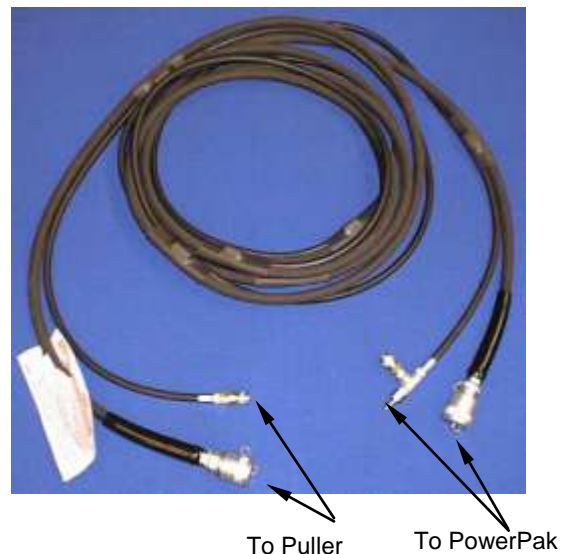

Figure 3.1-1
6. Connect the female air quick disconnect onto the male fitting of the puller unit (see Figure 3.1-1).
8. Connect the male air quick disconnect attached to the T-fitting into the female coupler of the FTI PowerPak (see Figure 3.1-1).